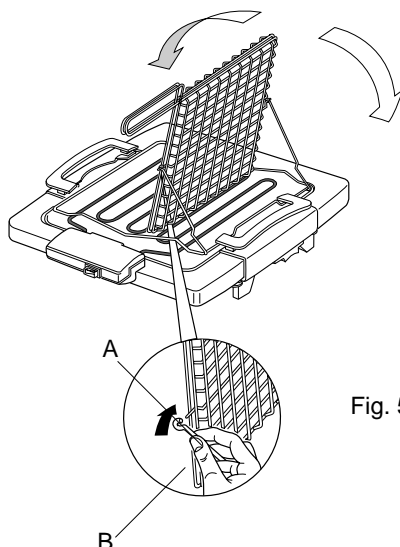

Fig. 5
- Insert the pivot pins (A) into the eyelets (B) on the grilling rack support (fig. 5).